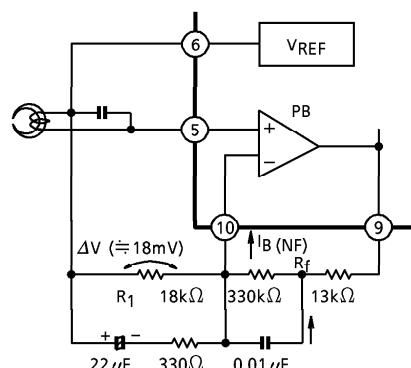

Fig.1 DC output voltage of playback amplifier
In case that β of transistor is assumed 100, $I_B(NF)$ is flowed $0.2\mu A$ in Fig.1. And output voltage of playback amplifier (pin⑧, ⑨) in Fig.1 is